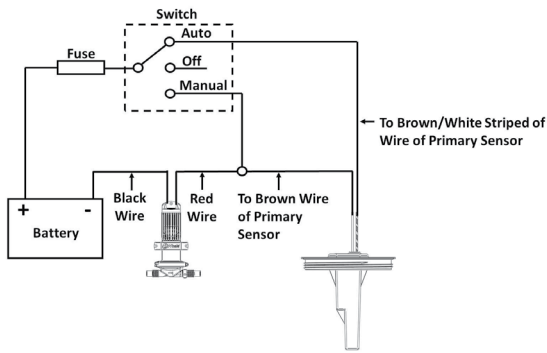
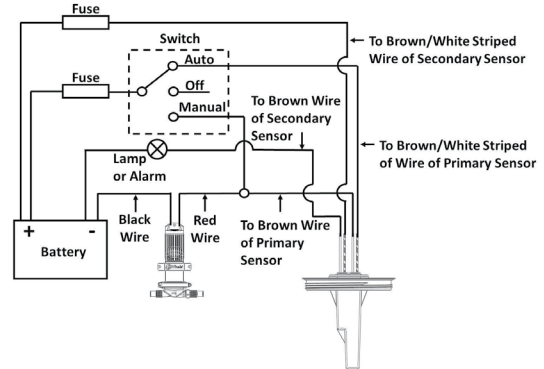

Figure 8A Wiring Diagram - for Single Sensor Models
Figure 8B Wiring Diagram - for Double Sensor Models
- Fig. 8A & B Wiring Diagrams
**Step 4: Wiring:** See Figure 8A or figure 8B.